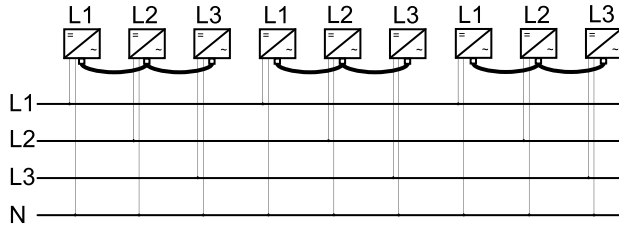

Fig. 2 Installation in successive groups of three
- PLATINUM inverters form groups of three inverters each (see Fig. 2)